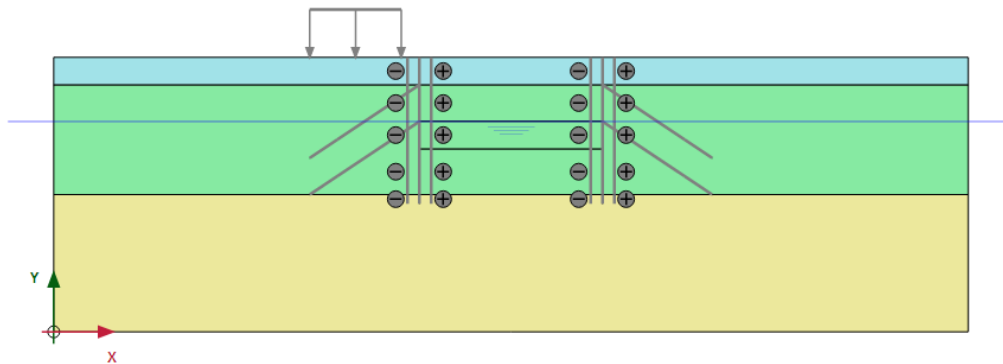

Figure 84: Configuration of the initial phase
- The model for initial phase is shown in Figure 84 (on page 111).